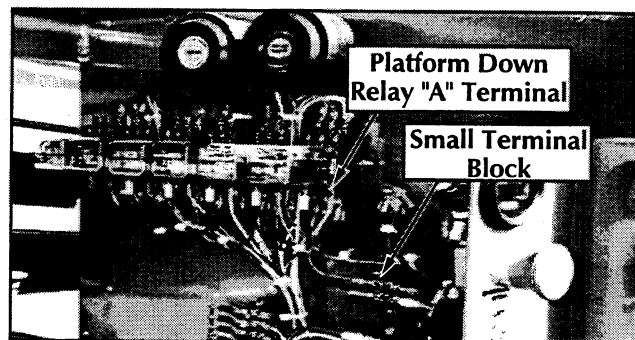

Figure 4-9: Platform Down Relay and Terminal Block
PLATFORM DOWN LIMIT SWITCH (Figures 4-9 & 4-10)
2. Disconnect the black wire on the small terminal block and the white wire connected to the 'A' terminal of the platform down relay (Figure 4-9). Connect an ohmmeter or continuity tester to the wires.